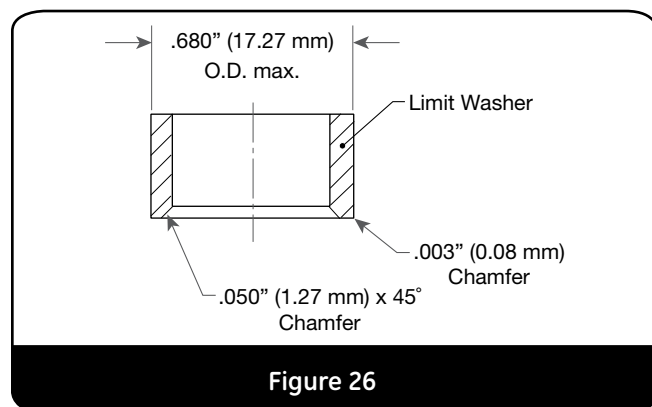

Figure 26
- B. For bellows valves, the limit washer must also be chamfered on the lower O.D. as shown in Figure 26.